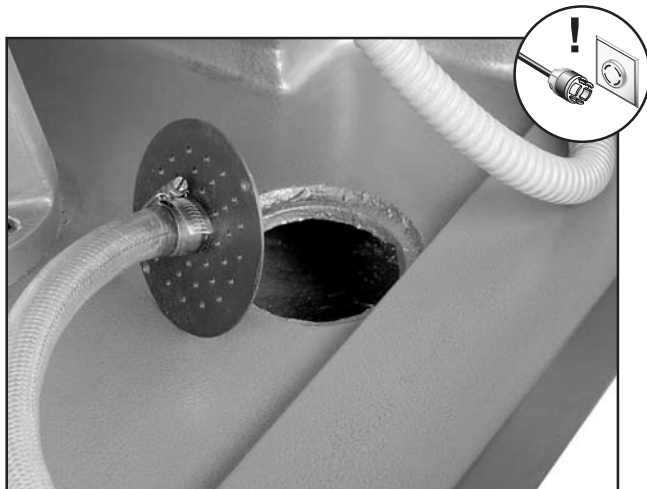

Figure 81. Coolant drain screen found inside the bottom splash pan.
2. Remove the coolant drain screen and inspect how far the coolant is from the top of the tank (see **Figure 81**).